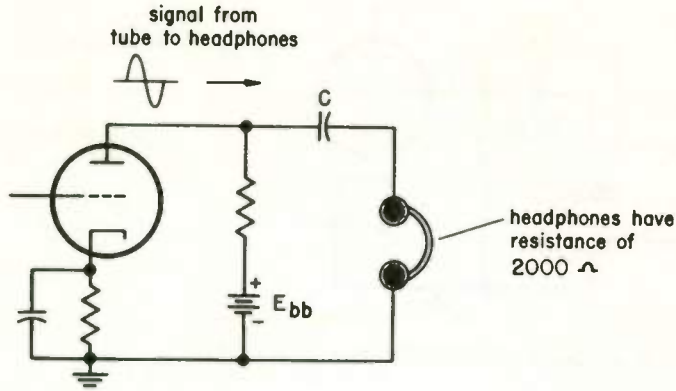

Fig. 39
1. If the reactance of capacitor C in Fig. 39 does not exceed (a) _____ Ω , the signal loss caused by the capacitor will be negligible. A large capacitor C is needed if it is desired to hear (b) (very low) (very high) frequencies in the headphones without signal loss. You would not want to use too large a capacitor for C because (c) (high frequencies would be partly lost) (it would be unnecessarily bulky and expensive).